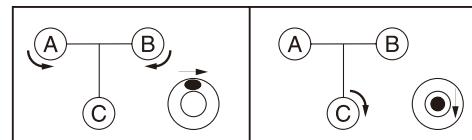

fig.1
4. Align the instrument with leveling screw 9 so that the air bubble is in the center of the circular vial (see fig.1)